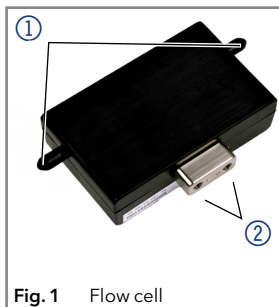

Fig. 1 Flow cell
2. Remove the hoods from the light inlet and outlet ① (see Fig. 1).
3. Remove the hole plugs from the inlet and outlet cartridge ② .